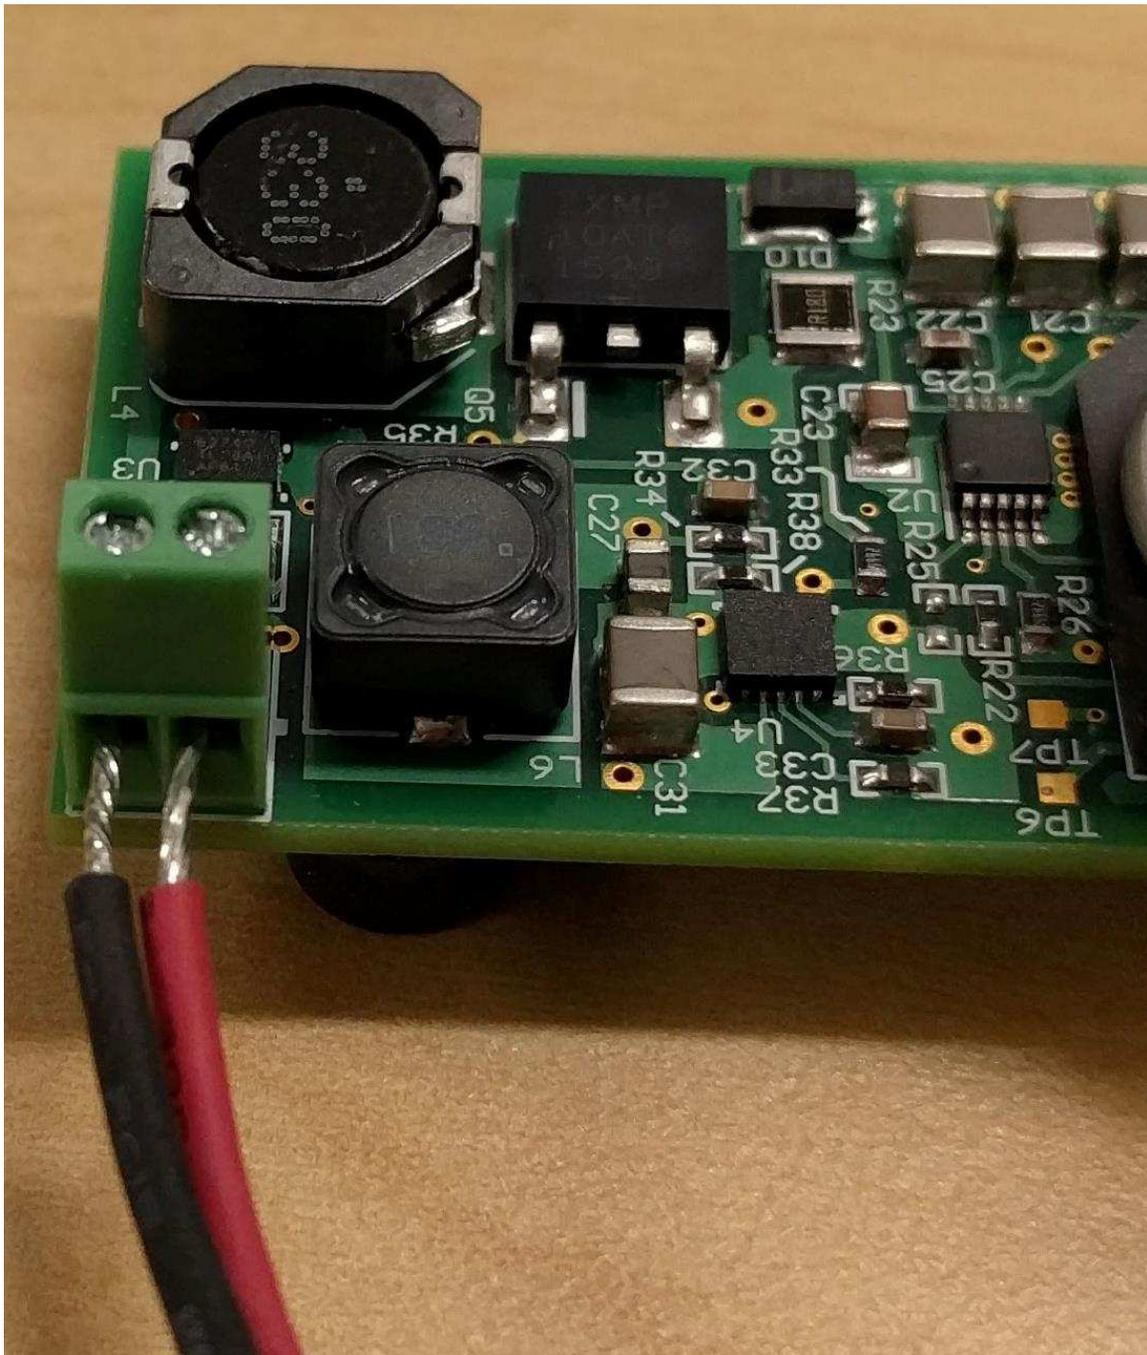

Figure 21. TIDA-01463 LED Output Connection on PCB
2. Connect the LED light to the output terminal, J7. If unsure about the polarity of the terminals, check the bottom of the PCB. The right terminal (+) is connected to the trace, and the left terminal (-) is connected to the ground plane (see Figure 21).